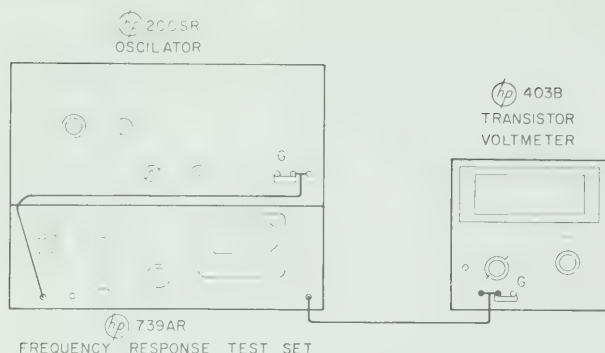

Figure 5-7. Frequency Response Setup
- a. Connect Model 403B as shown in Figure 5-7.
- a. Connect \oplus Model 403B as shown in Figure 5-7.